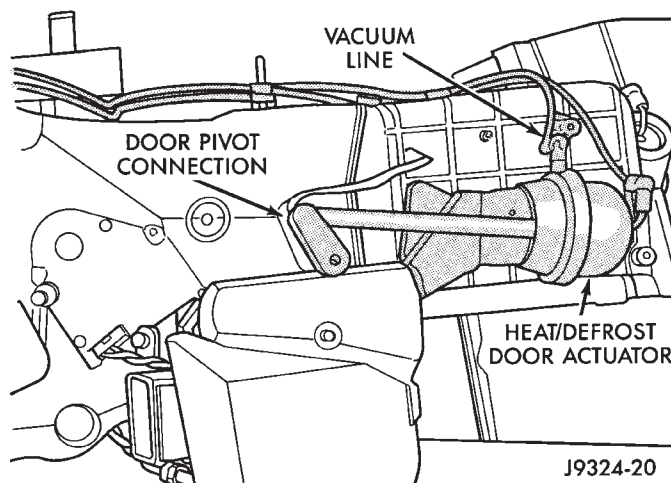

Fig. 53 Heat-Defrost Door Actuator
(1) Disconnect and isolate the battery negative cable.
(2) Remove the heater-A/C housing from the vehicle and place it on a work bench. See Heater-A/C Housing in the Removal and Installation section of this group for the procedures.
(3) Unplug the two vacuum harness connectors from the heat-defrost door actuator (Fig. 53).